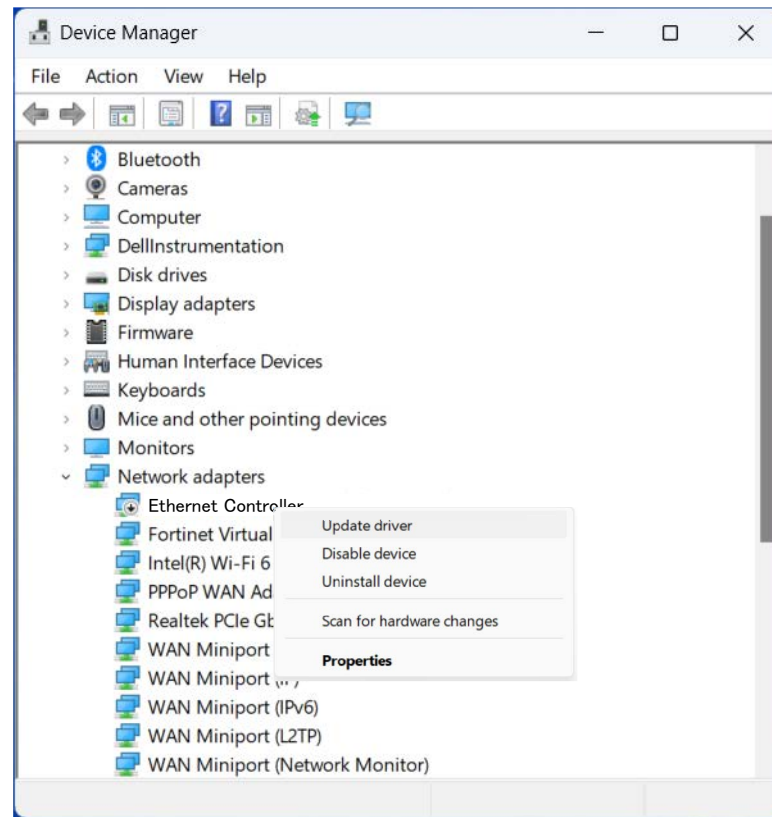

Figure 18. Ethernet Controller in Device Manager
4. In the shortcut menu, select **Update driver**. See Figure 18.